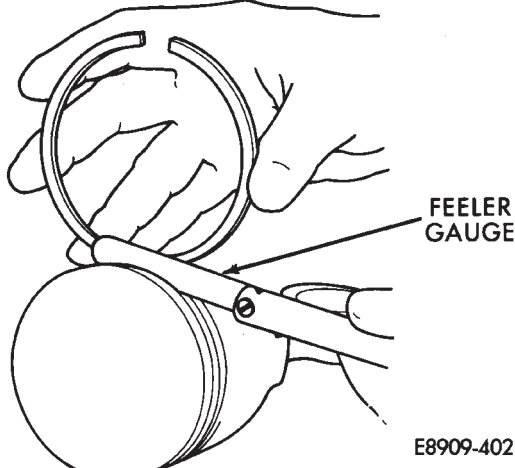

Fig. 11 Ring Side Clearance Measurement
(1) Carefully clean the carbon from all ring grooves. Oil drain openings in the oil ring groove and pin boss must be clear. **DO NOT** remove metal from the grooves or lands. This will change ring-to-groove clearances and will damage the ring-to-land seating.
(2) Be sure the piston ring grooves are free of nicks and burrs.
(3) Measure the ring side clearance with a feeler gauge fitted snugly between the ring land and ring (Fig. 11). Rotate the ring in the groove. It must move freely around circumference of the groove.